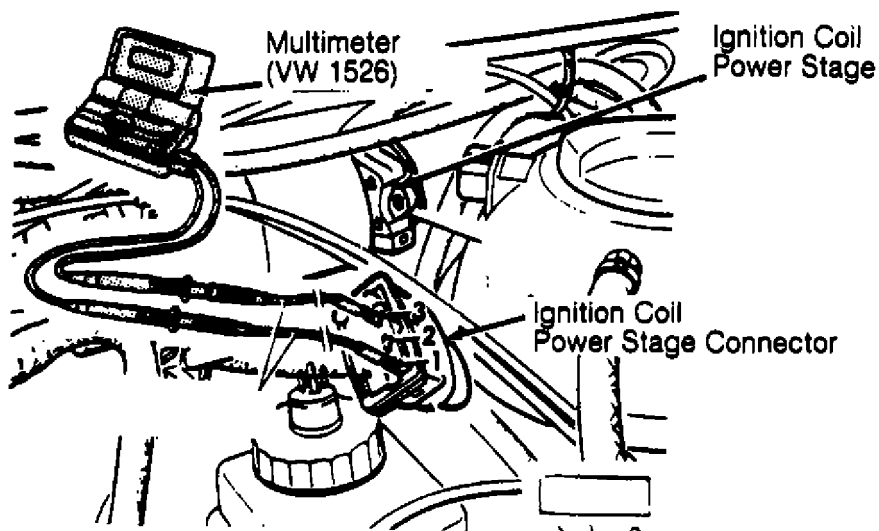

Fig. 4: Testing Ignition Coil Power Stage (Typical)
1) Turn ignition off. Disconnect coil power stage harness connector. Connect a voltmeter to terminals No. 1 and No. 3. See Fig. 4.